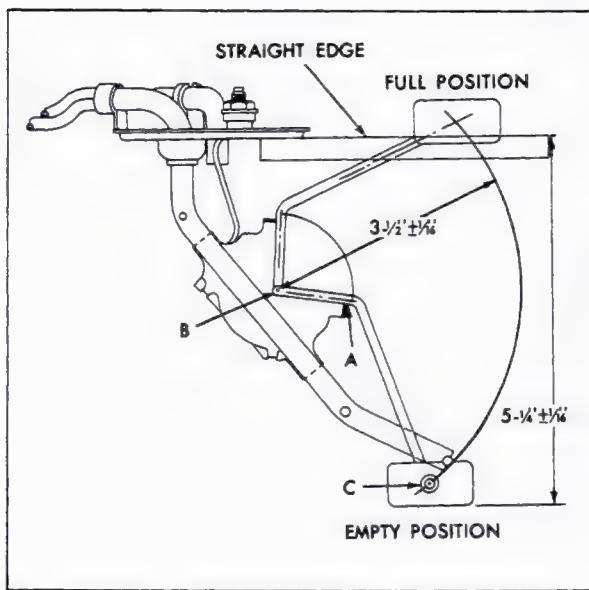
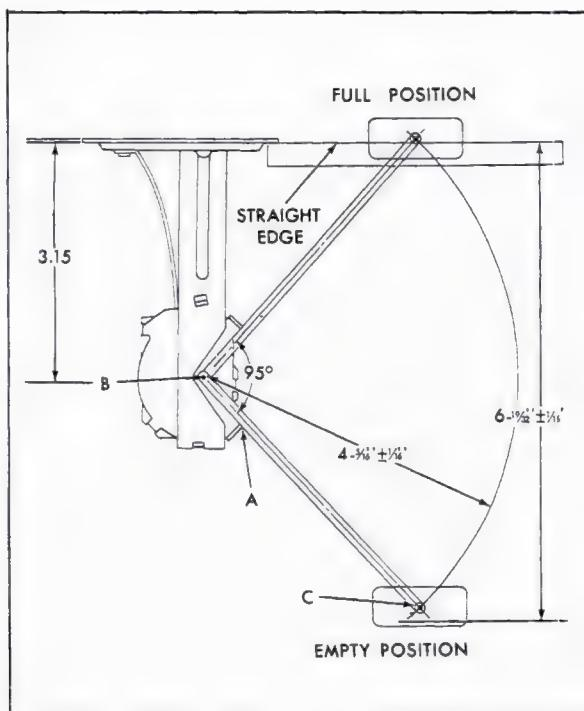

Fig. 12-29 Checking for Bent Float Arm (Exc. 693)
Fig. 12-30 Checking for Bent Float Arm (693)
1. Establish a fixed reference point when checking for a bent float arm by placing a straight edge as illustrated on surface of cover plate, extending it outward. See Fig. 12-29 for all but 693 style or Fig. 12-30 for 693 style.
"Empty" position against stop "A", distance from bottom of float (with float horizontal) to straight edge should be $5\frac{1}{4}'' \pm \frac{1}{16}$ inch, Fig. 12-29. Bend float arm as needed. Check distance from point "B" to "C" which should be $3\frac{1}{2}'' \pm \frac{1}{16}$ inch, Fig. 12-29. Bend float arm as needed and recheck distance from bottom of float to straight edge.
3. On 693 style, with float arm in "Empty" position against stop "A", distance from bottom of float to straight edge should be $6\frac{19}{32}'' \pm \frac{1}{16}$ inch, Fig. 12-30. Bend float arm as needed. Check distance from point "B" to "C" which should be $4\frac{5}{16}'' \pm \frac{1}{16}$ inch, Fig. 12-30. Bend float arm as needed and recheck distance from bottom of float to straight edge.